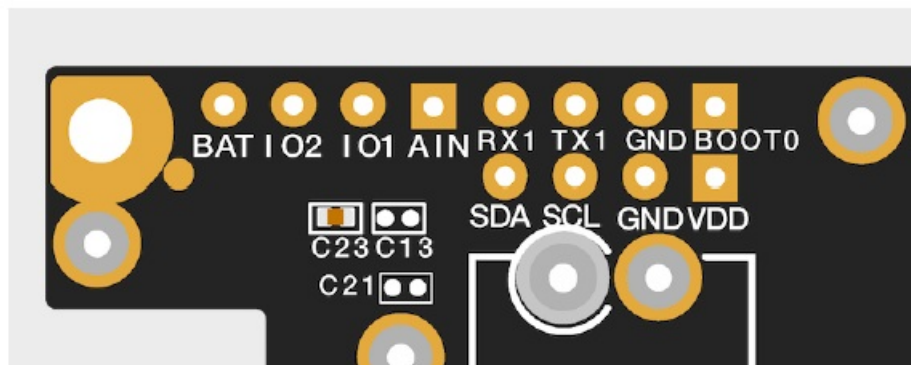

Figure 2: WisBlock Base exposed pins
2. Expose the pins on RAK5005-O by using header pins. The pin labels can be found at the back of the base (refer to Figure 2).
There are a few pins that are exposed on RAK5005-O, and you can easily use them via header pins. The labels are at the back, as shown in Figure 2.